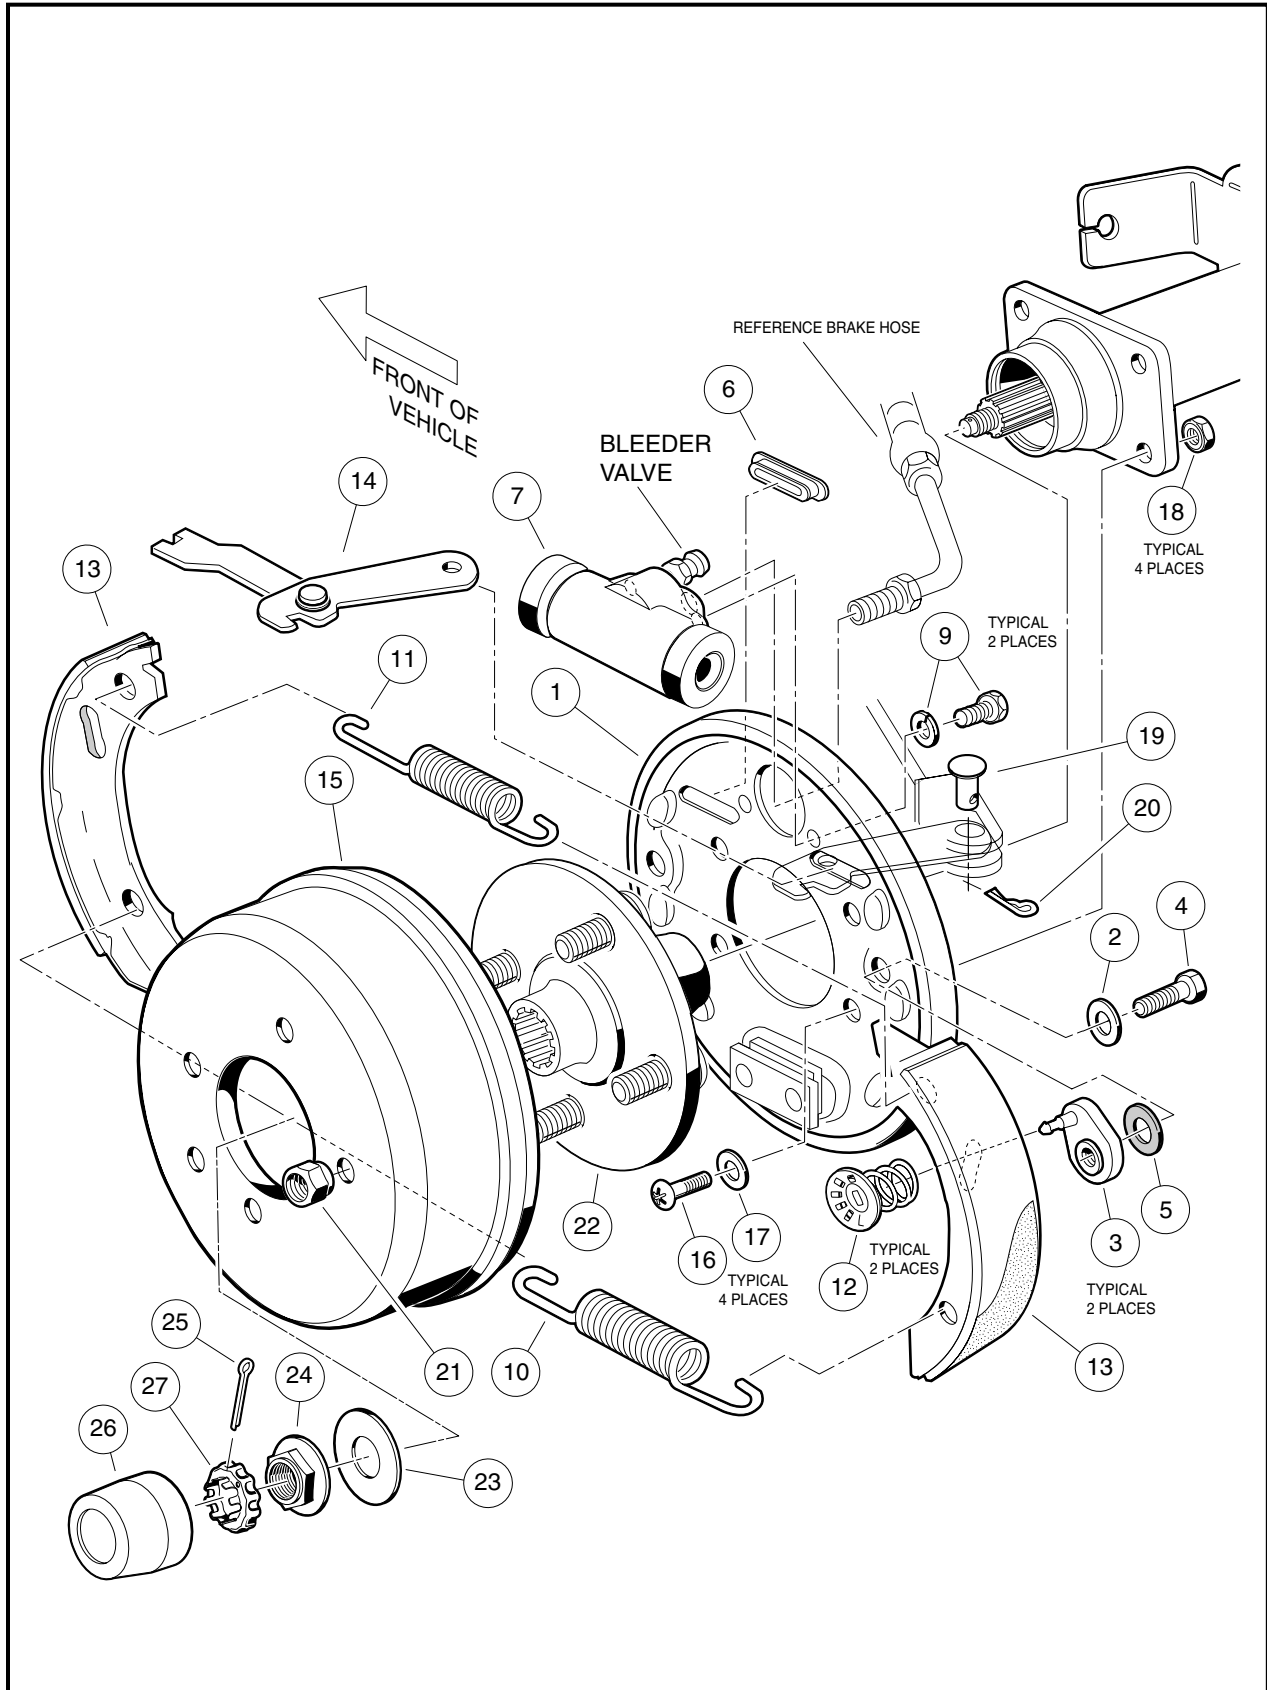

Figure 6a-21 Rear Hydraulic Brake Cluster Assembly
5. Remove two bolts (9) and lock washers that secure the wheel cylinder to the brake cluster mounting plate (1), and remove the wheel cylinder (7) (**Figure 6a-21, Page 6a-25**).
1. Install wheel cylinder (7) with two bolts (9) and lock washers to the brake cluster assembly mounting plate (1) (**Figure 6a-21, Page 6a-25**). Tighten the two bolts to 120 in-lb (13 N·m). **See following NOTE.**
2. Using a 3/8-inch flare nut wrench, attach the brake hose fitting to the brake cluster wheel cylinder (**Figure 6a-21, Page 6a-25**).
4. With the back plate removed, grip adjuster arm (3) with a pair of locking pliers. Use a Torx #T-27 driver or 7/16-inch socket to remove the bolt (4), flat washer (2), and Bellville washer (5) from the brake cluster back plate (1) (**Figure 6a-3, Page 6a-4**). Remove remaining adjuster assembly and discard all adjuster components (3, 4, 2, and 5) for both assemblies.
1. Install bolt (4) through flat washer (2) and through the brake cluster back plate (1) (**Figure 6a-3, Page 6a-4**).
2. Apply a light coat of grease to the Bellville washer (5) and install the washer onto the bolt (4) and against the inside surface of the back plate (1) (**Figure 6a-3, Page 6a-4**).
3. Carefully apply Loctite® 222 to the threaded portion of the bolt (4) and attach the adjuster arm (3). Position adjuster so that the brake mounting post is to the top of the back plate. (**Figure 6a-3, Page 6a-4**).
4. Grip adjuster arm (3) with a pair of locking pliers. Use a Torx #T-27 driver or 7/16-inch socket to tighten the bolt (4) to 115 in-lb (13 N·m) (**Figure 6a-3, Page 6a-4**).